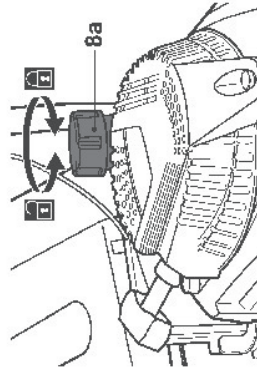

Fig. 5
3. Unscrew and remove the fuel tank cap (8a) (Fig. 5).